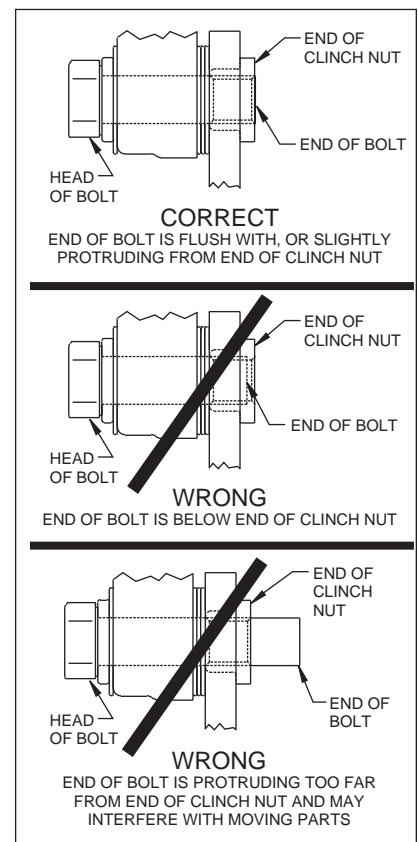

Figure 3.
correct alignment. **NOTE:** *The end of the bolt must be flush with or slightly protruding from the head of the clinch nut. See Figure 3.* Place spare shims (18) between washer and caliper mounting ear to achieve the proper mounting fastener configuration. Always use the same amount of shims on both the top and bottom caliper mounting bolts (16). Apply red *Loctite® 271* to bolt threads (16) and torque to 40 ft-lb.
- Install the disc brake pads (19) and secure using cotter pin (20).